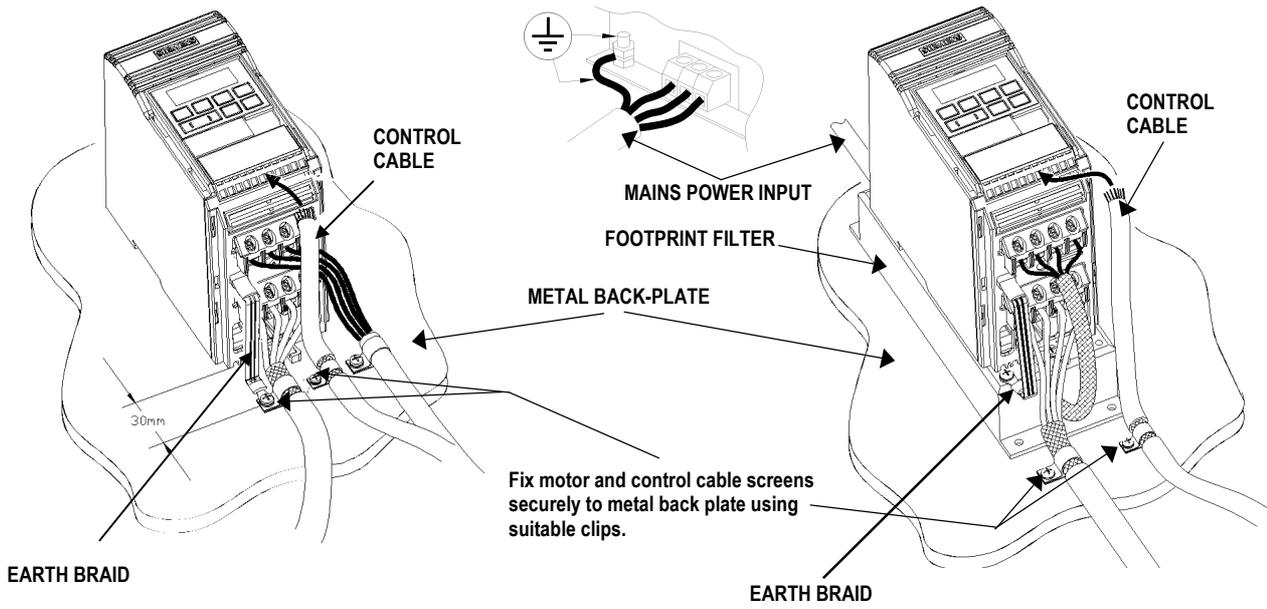

Figure 1.2.1: Wiring guidelines to minimise effects of EMI - MICROMASTER FSA
The inverters are designed to operate in an industrial environment where a high level of Electro-Magnetic Interference (EMI) can be expected. Usually, good installation practices will ensure safe and trouble-free operation. However, if problems are encountered, the following guidelines may prove useful. In particular, grounding of the system 0V at the inverter, as described below, may prove effective. *Figure 1.2.1- 3* illustrates how an RFI suppression filter should be installed.
- (2) Wherever possible, use screened leads for connections to the control circuitry. Terminate the ends of the cable neatly, ensuring that unscreened wires are as short as possible. Use cable glands whenever possible.
- (3) Separate the control cables from the power connections as much as possible, using separate trunking, etc. If control and power cables cross, arrange the cables so that they cross at 90° if possible.
- (4) Ensure that contactors in the cubicle are suppressed, either with R-C suppressors for AC contactors or 'flywheel' diodes for DC contactors, **fitted to the coils**. Varistor suppressors are also effective. This is particularly important if the contactors are controlled from the relay on the inverter.
- (5) Use screened or armoured cables for the motor connections and ground the screen at both ends via the cable glands.
- (6) If the drive is to be operated in an Electromagnetically noisy environment, the RFI filter should be used to reduce the conducted and radiated interference from the inverter. For optimum performance, there should be a good conductive bond between filter and metal mounting plate.
- (7) For FSA units (*Fig 1.2.1*), the flat earth braid strap, supplied with the unit, should be fitted to minimise emissions .